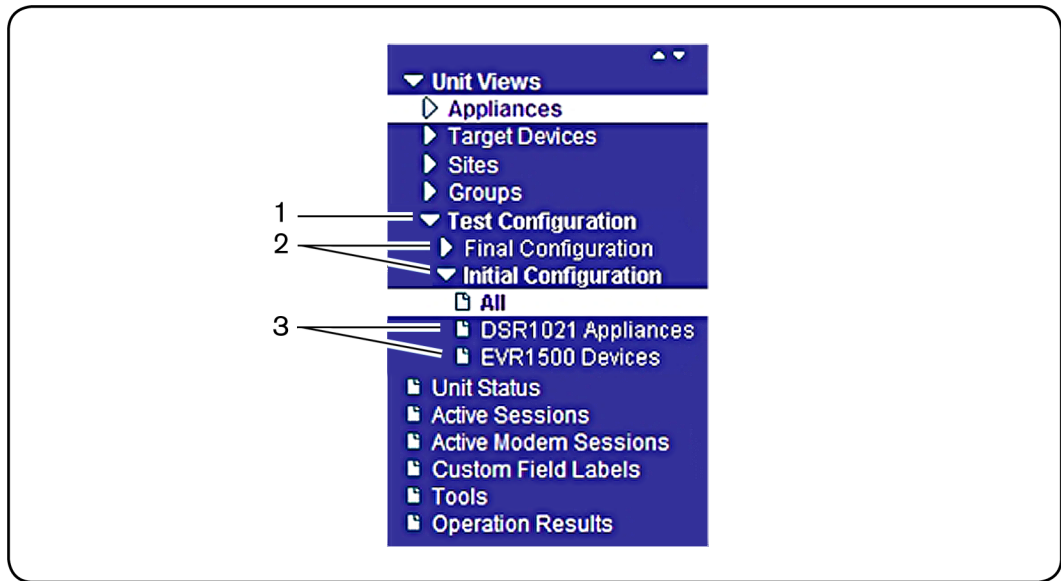

Figure 15.1: Custom Fields Example: Side Navigation Bar
- Figure 15.1 indicates how the side navigation bar will appear after the example procedure. Clicking on a custom field link displays the units associated with that custom field.
Figure 15.1 indicates how the side navigation bar will appear after the example procedure. Clicking on a custom field link displays the units associated with that custom field.